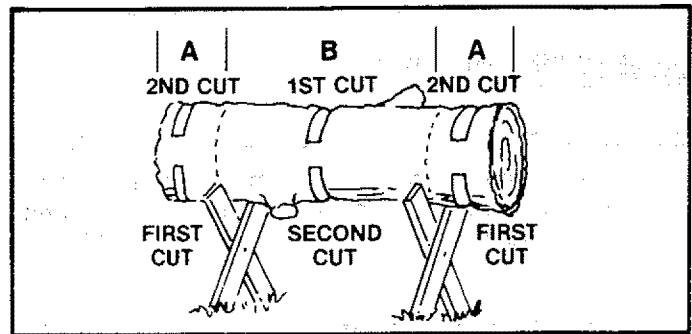

Figure 35
5. BUCKING — USING A STAND (Figure 35):